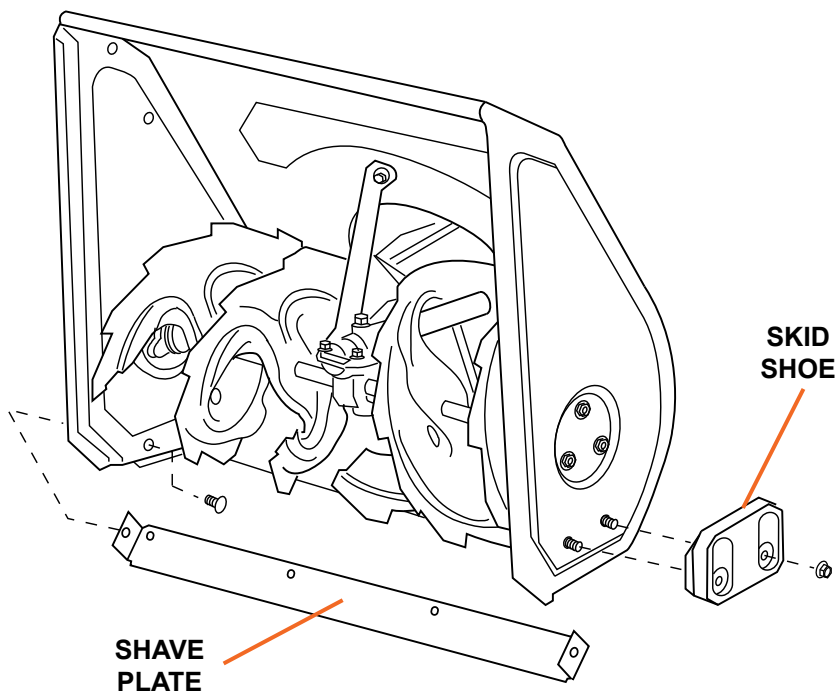

Figure 17
1. Remove the four carriage bolts and hex flange nuts which secure them to the snow blower (see Figure 17).
1. Remove the carriage bolts and hex nuts which attach it to the snow blower housing (see Figure 17).